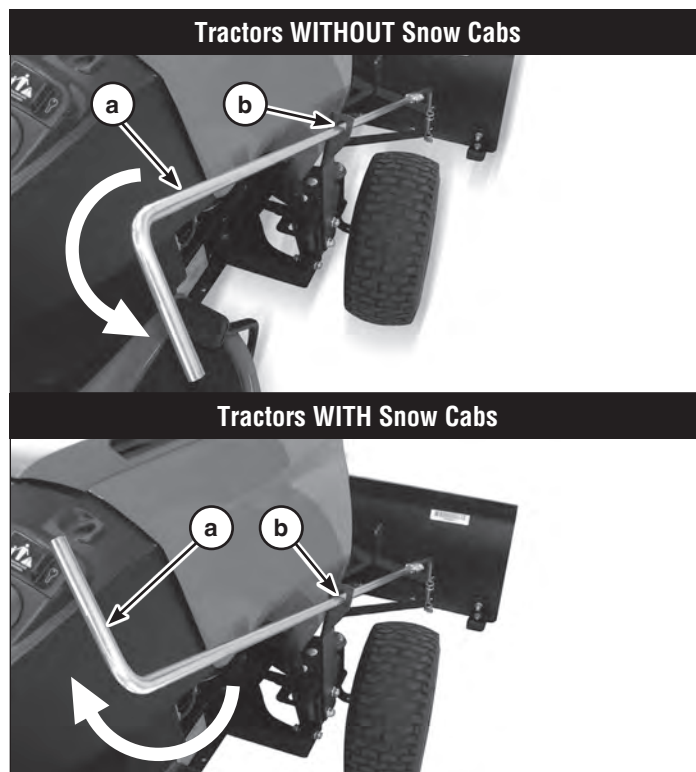

Figure 19
- Insert top angle rod (JJ, Figure 19) through hole (b) in lift support assembly.